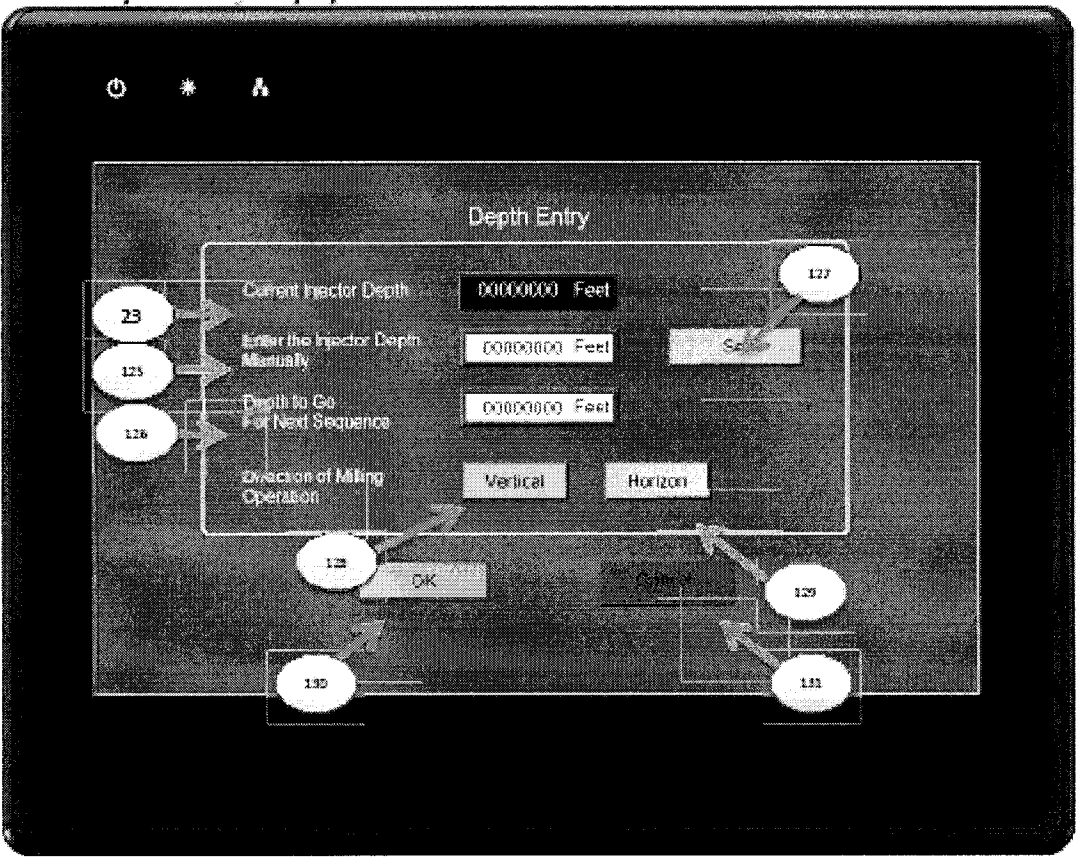

Figure 14
- the detailed description makes reference to Fig. 14 only in par. [0367], and without any reference to the elements in the figure;
The drawings of Figs. 14, 15, 18, 19 and 21 fail to comply with **Rule 11.2 (a) PCT** and **Rule 11.13 (a), (c) PCT** because the distinctiveness of their graphical execution is such that some of the details can be distinguished only with difficulty while other details are completely indistinguishable